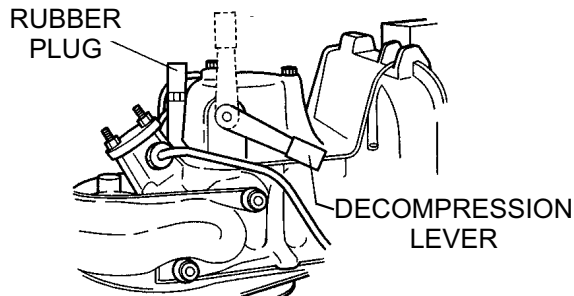

Figure 41. Decompression Lever
3. Remove the rubber plug (Figure 41) on the rocker arm cover and add about 2 cc of lube oil. Reinstall rubber plug.